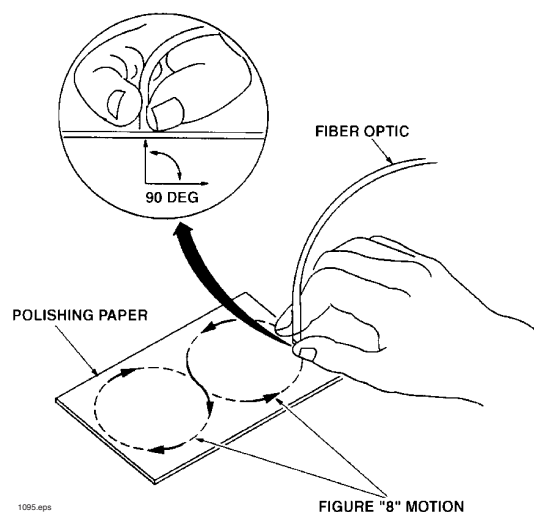

Figure 37. Pattern and orientation of the optical fiber during polishing.
7. Place the 600-grit paper on any hard flat surface and wet the paper with a light liquid. Polish the end of the fiber in a "figure 8" pattern while holding the fiber perpendicular to the polishing surface as shown in Figure 37. Supporting the fiber against a flat object during polishing will aid in obtaining a good, flat termination. After 20 strokes, observe the end of the fiber. (A microscope or magnifying glass is helpful, but not required.) If the fiber end is not flat, or has scratches, go back and repeat the polishing procedure. If the end is not flat, it is because some angular rotation (leaning) is occurring when polishing, so be very careful to keep the fiber perpendicular to the polishing film during the complete "figure 8."